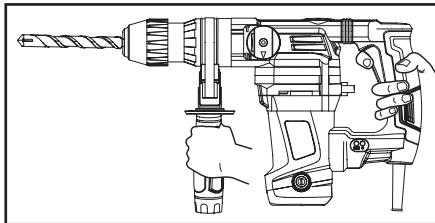

Fig. 12
- Hold the hammer drill with both hands on the grip surfaces of the main and additional handle while maintaining a firm and stable body stance, see Fig. 12. Hammer drills have a powerful action and may thus destabilise the user. This method of holding the power tool by the plastic handles reduces the risk of injury by electrical shock when a hidden electricity conduit is hit.